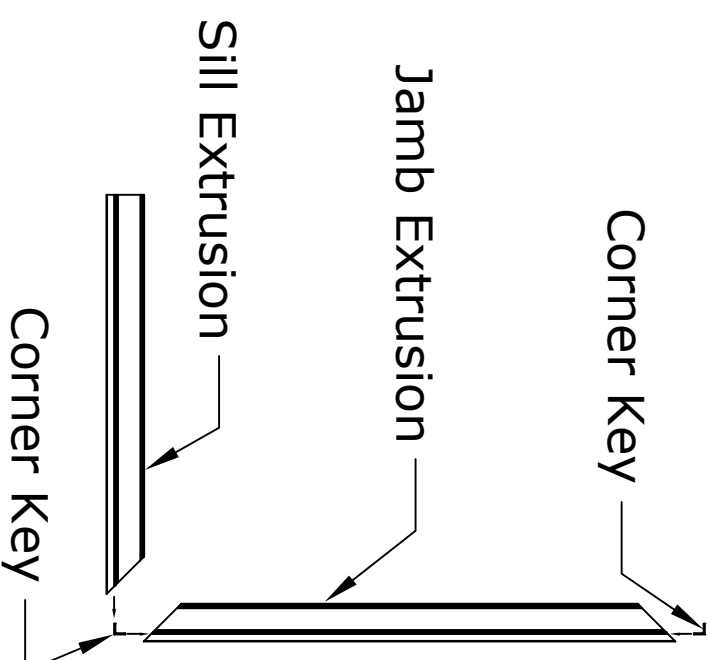
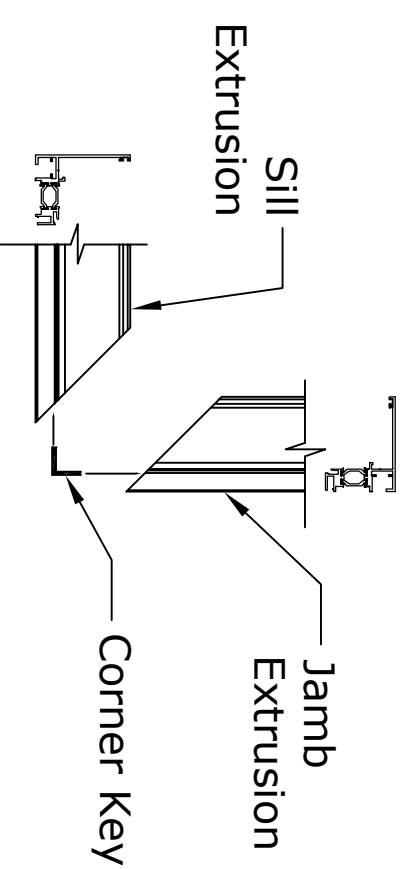

Fig 2
Fig 2A
- 2.) Insert the corner key into each end of the jamb base extrusion. See Fig 2 and Fig 2A